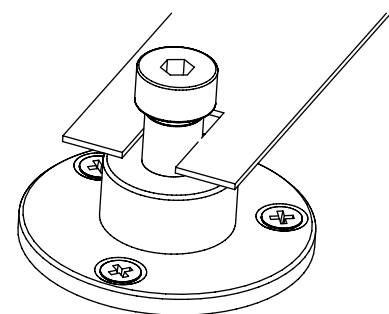
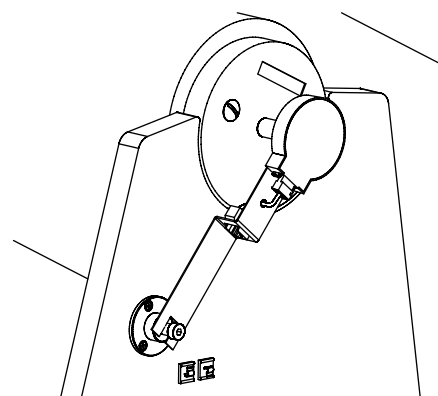

Fig 4. Circular tangent arm coupler
Fig 5. Alt tangent arm placement
5) Insert the supplied 5/16" socket head shoulder screw into the circular tangent arm locating coupler as seen in Fig 4. With one hand, rotate the tangent arm around to approx. the 7 o'clock position as shown in Fig 5. With the other hand, slide the locating coupler beneath the slot in the tangent arm so that the shoulder screw is mid-way along the length of the slot. Being careful not to shift the position of the locating coupler, remove the shoulder screw so as to allow the tangent arm to be positioned out of the way. Using the three mounting holes as a template, carefully spot three holes approximately 2mm deep using a 2mm drill bit. Using three supplied 5g x 16mm self-tapping wood screws, fasten the locating coupler in place. Locate tangent arm slot above the locating coupler. Thread supplied 5/16" socket head shoulder screw through the slot and into the locating coupler. Tangent arm should be free to 'float' and slide on silver colored shoulder of shoulder screw.